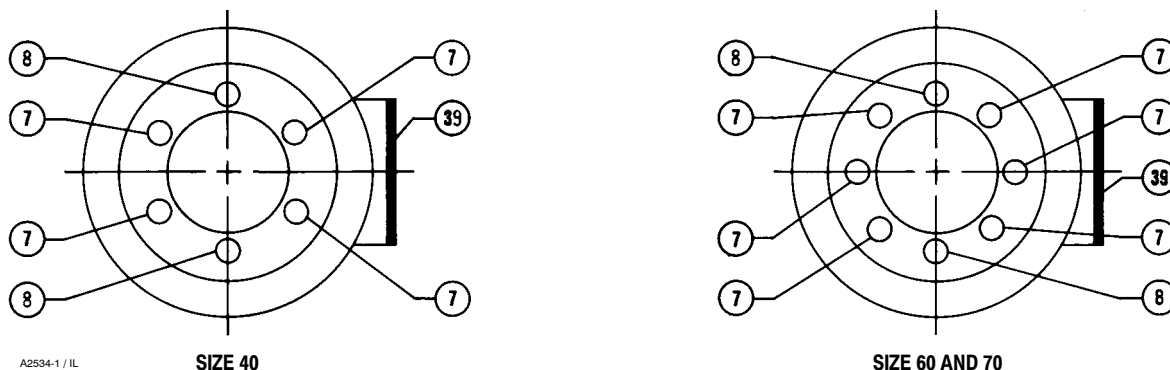

Figure 5. Travel Stop Orientation
- Assemble the diaphragm rod, spring seat (key 13), spring (key 11), and diaphragm plate (key 4), and secure with the cap screw (key 9). Tightening the cap screw will compress the spring. Be certain the tapered end of the diaphragm rod is seated in the corresponding hole in the diaphragm plate, that the spring is seated in the spring seat, and that the cap screw is tightened to the torque specified in table 3.
- Install the hex nut (key 58), turnbuckle (key 57), hex nut (key 16), and rod end bearing (key 17) onto the diaphragm rod.
- Be certain the travel stops (key 8) are located as shown in figure 5.
- Be sure the warning nameplate (key 56) is in place. Install the diaphragm (key 3) and the upper diaphragm casing (key 1). Install the cap screws and hex nuts (keys 5 and 6). Tighten the cap screws evenly in a crisscross pattern to compress the spring and secure the upper diaphragm casing. Refer to table 3 for torque values.
- *For actuator designs with a set screw (key 75),* if the adjusting screw (key 74) and attached parts were removed, lubricate the threads of the adjusting screw with the lubricant (key 76) or equivalent. Install the lower bearing seat (key 73), the thrust bearing (key 71), the thrust bearing races (key 72), and the spring seat (key 13) onto the adjusting screw. Install this assembly into the spring barrel (key 12). Secure the adjusting screw with the set screw (key 75).
8. Coat the tapered end of the diaphragm rod (key 10) and the threads of the cap screw (key 9) with the lubricant (key 76) or equivalent. Bolt the diaphragm plate to the diaphragm rod.
9. Be certain the travel stops (key 8) are located as shown in figure 5.
10. Install the spring (key 11) into the spring barrel. Install the diaphragm plate and diaphragm rod into the actuator. Attach the hex nut (key 58), turnbuckle (key 57), hex nut (key 16), and rod end bearing (key 17) to the diaphragm rod.
- Place the upper diaphragm casing (key 1) onto the lower diaphragm casing (key 2). If necessary, rotate the lower bearing seat (key 73) so that the upper diaphragm casing travel stop will not contact the diaphragm when the casing cap screws and nuts (key 5 and 6) are tightened.